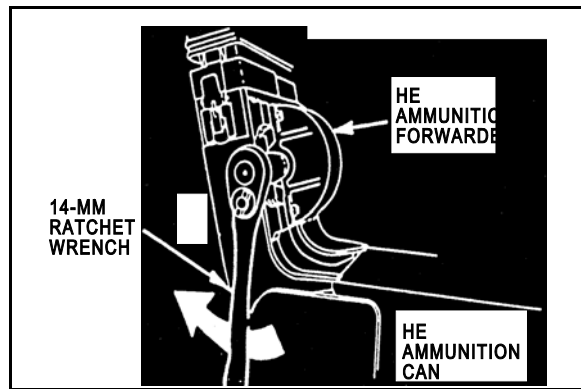

Figure 4. HE ammunition forwarder and 14-mm ratchet wrench.
- b. Use the 14-mm ratchet wrench and forward the HE ammunition up the feed chutes until the lower clutch override knob starts to come out (Figure 4).